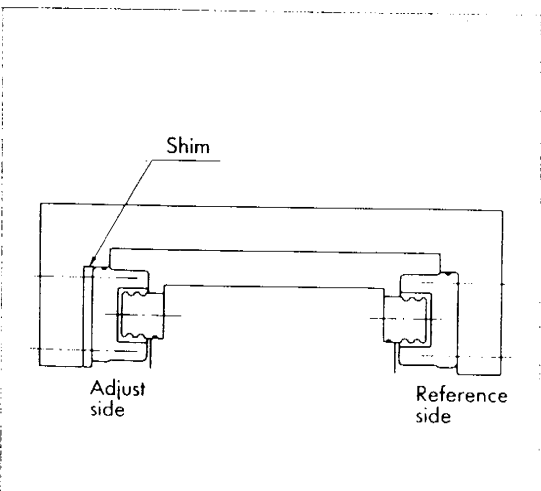

Fig. 38
The layout in Fig. 38 is slightly difficult as compared with (A). This layout may decrease the height of the table top surface.